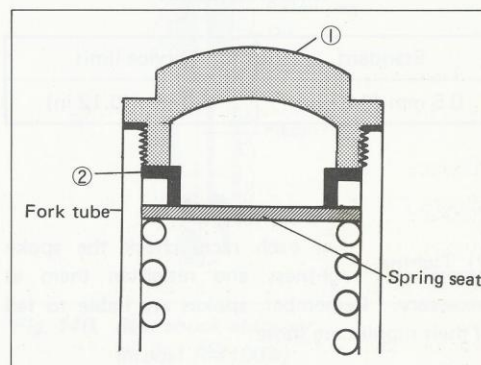

Fig. 136. Spring seat lowered by spacer inversion
- Remove front fork upper bolt ①.
- Remove spring adjuster spacer ② and invert this spacer as shown in Fig. 136.
- Put on upper bolt ①, and run the bolt in. This lowers spring seat to compress the spring further.